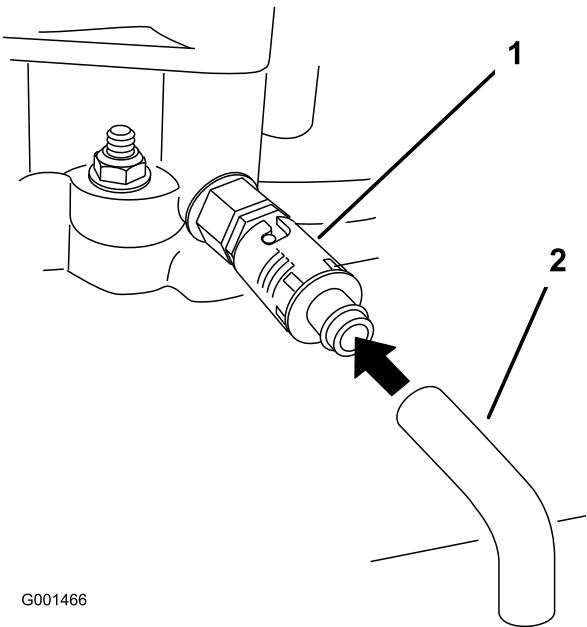

Figure 22
6. Place a pan below the drain hose. Rotate oil drain valve to allow oil to drain (Figure 22).
8. Remove the drain hose (Figure 22).